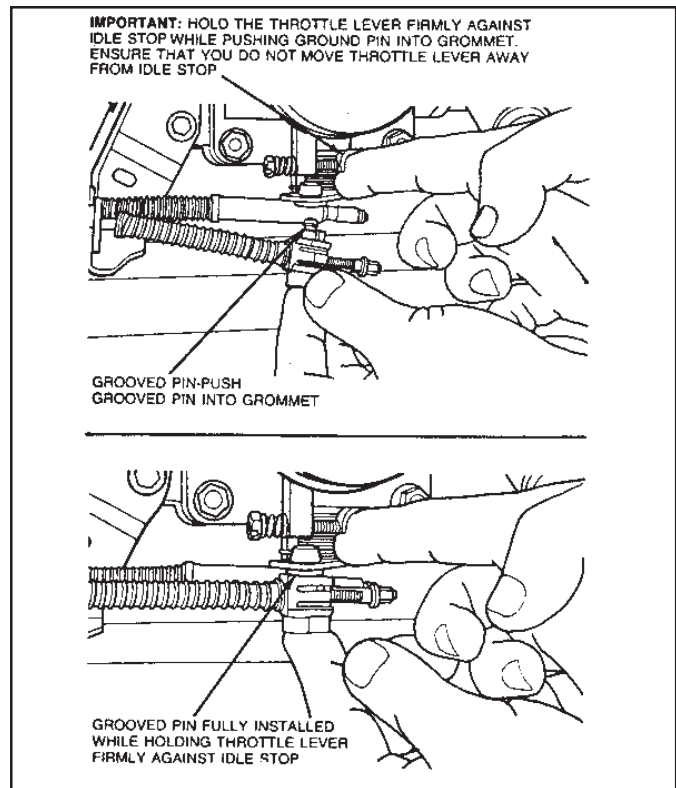

Figure 23
6.5 While holding throttle lever firmly against its idle stop, push grooved pin into grommet on throttle lever as far as it will go. **NOTE:** While pushing pin into grommet, make sure you do not move throttle lever away from idle stop. **(See Fig. 23.)**